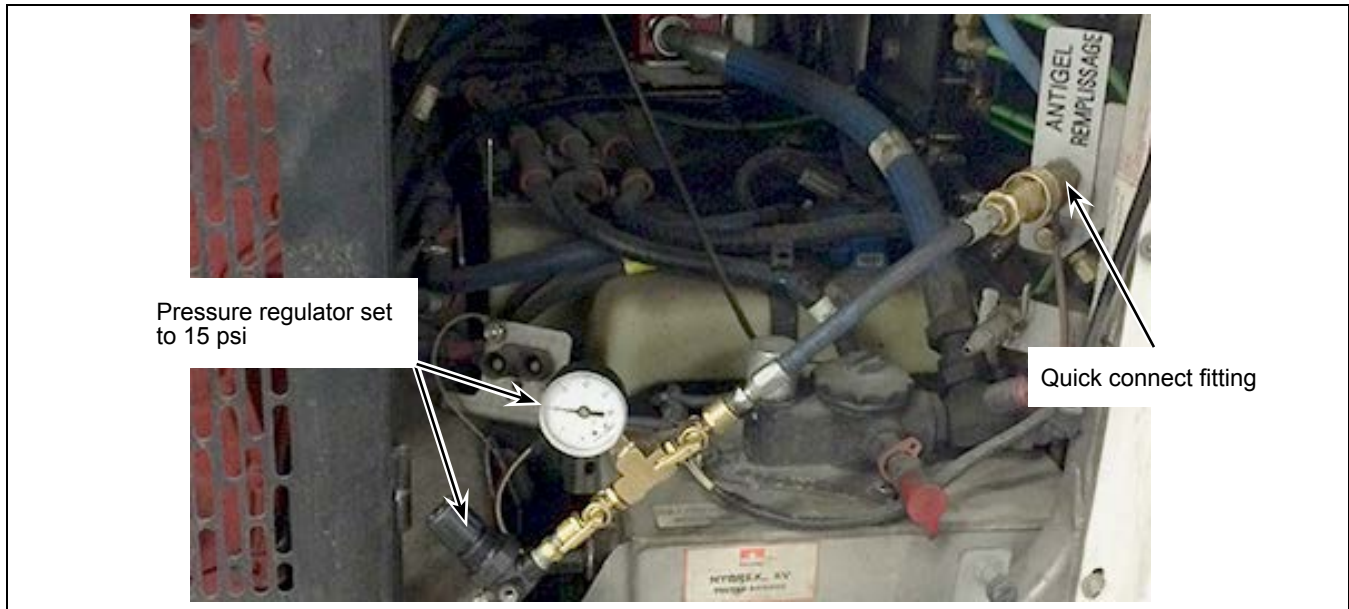

Figure 6 - Air Line Equip with a Regulator Installed on the Quick Connect Fitting
- 1.11. Connect a coolant filling hose equipped with a pressure regulator to the coolant quick connect fitting and set the regulator to 15 psi. See Figure 6.